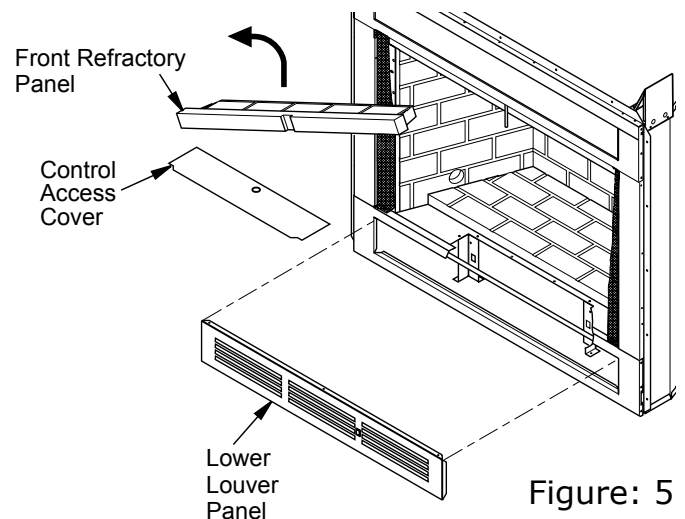

Figure: 5
Step 3: For models other than direct vent, remove vent grill or louver by snapping out the front with a flat blade screwdriver. (Figure: 5) These panels can also be removed by inserting fingertips between slots and gently pulling out. The panels are held in place by means of a retention dimple embossed on the edge of the panel. To reinstall, place louver into cavity and push gently.
On some models, the blower is installed through the control access cover under the front refractory panel. (Figure: 5)